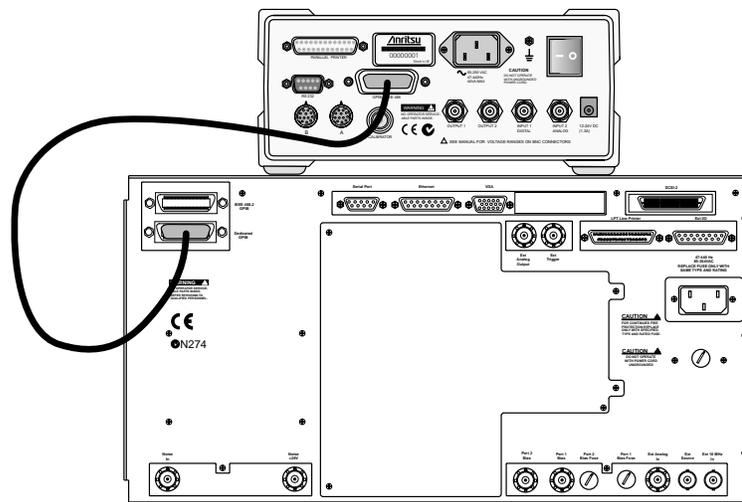

Figure 3-1. ML2430A Series Power Meter GPIB connection to the MS462XX Vector Network Measurement System
- Step 1.** Connect a GPIB cable between the power meter GPIB connector and the MS462XC dedicated GPIB connector, as shown in Figure 3-1.